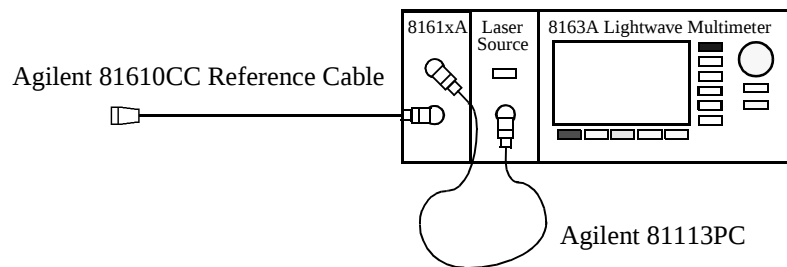

Figure 16 Measuring the Return Loss of the Reference Cable - External source
- 1 Attach the source to the Return Loss module's input as shown in Figure 16. Attach the high return loss connector of the reference cable to the output.